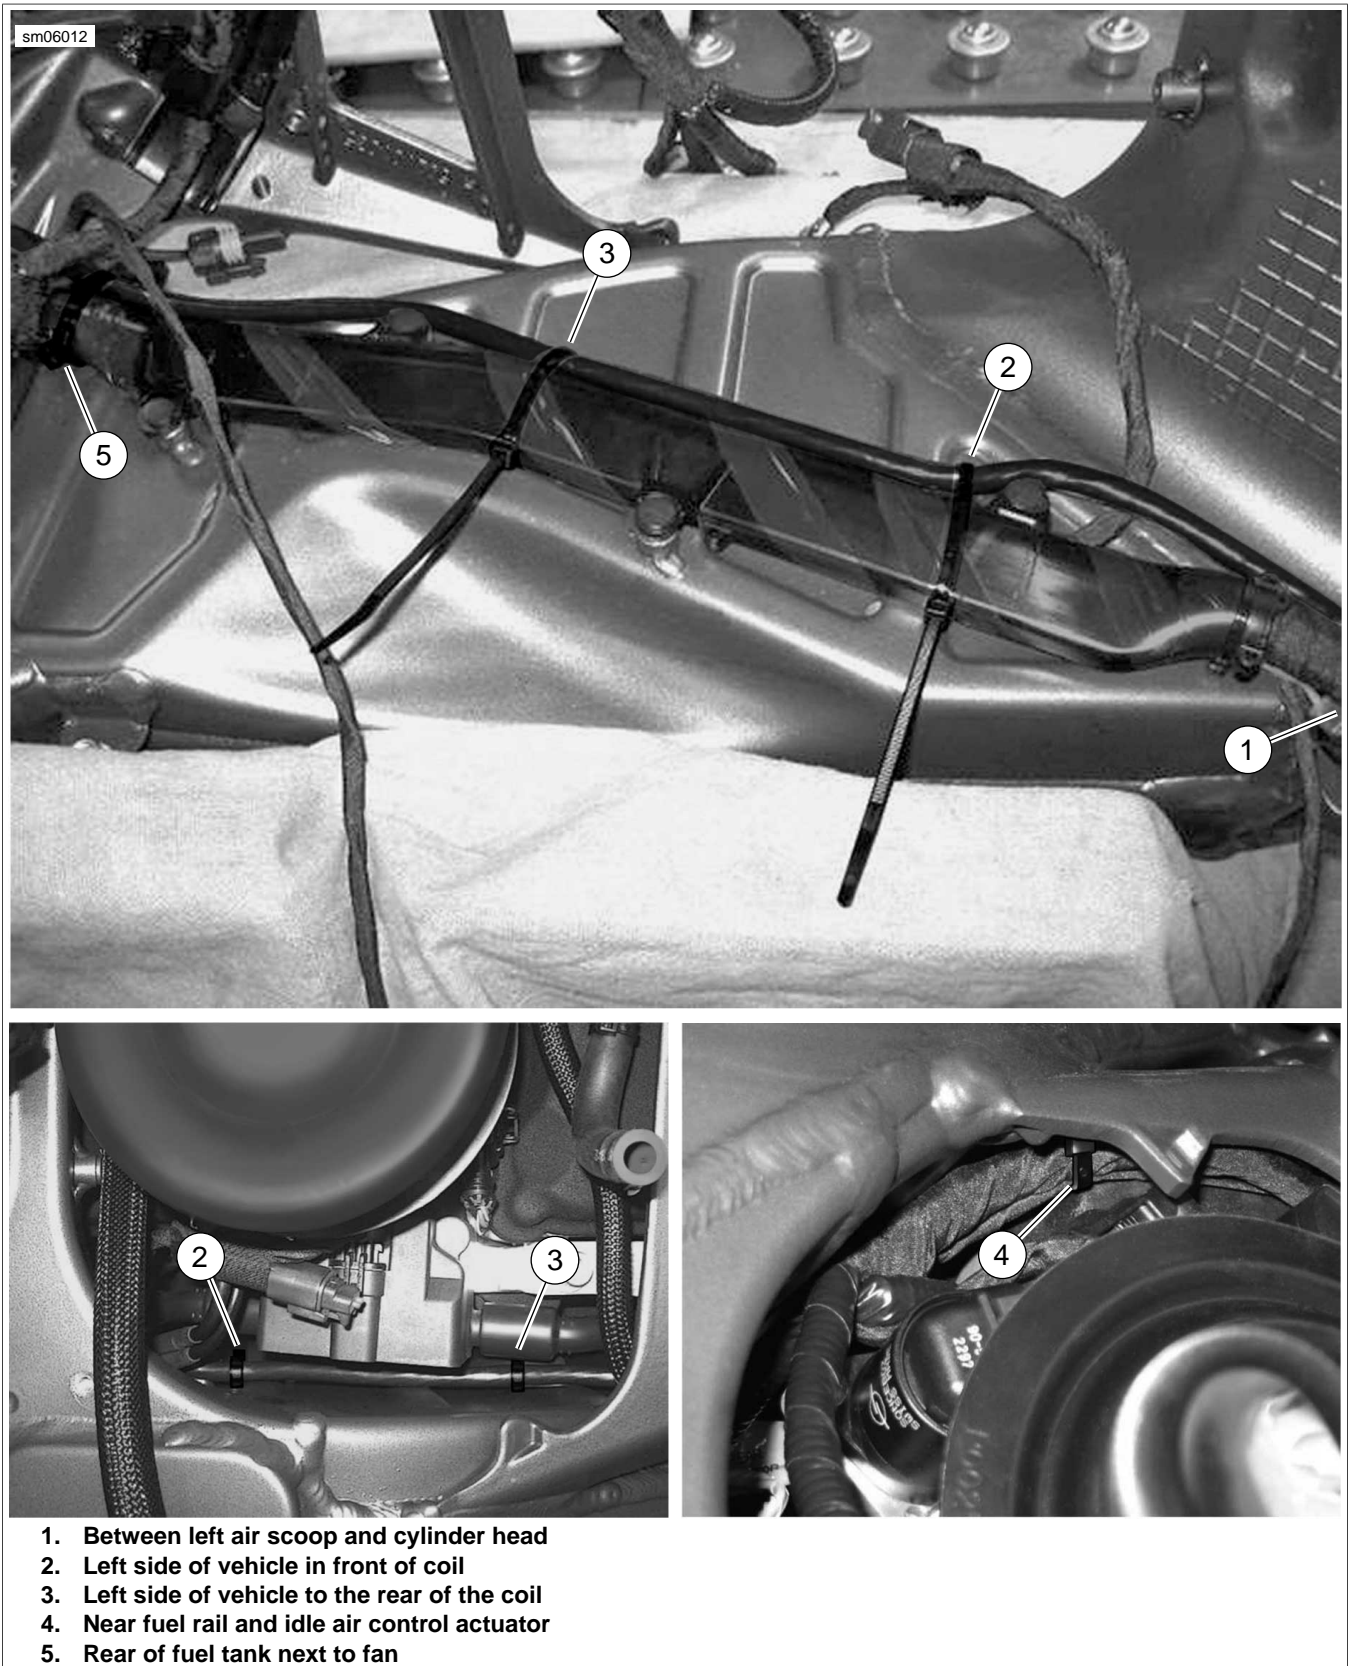

Figure 6-106. Auxiliary Harness Cable Strap Locations
16. See Figure 6-106. Remove five cable straps securing auxiliary harness and main harness to frame.